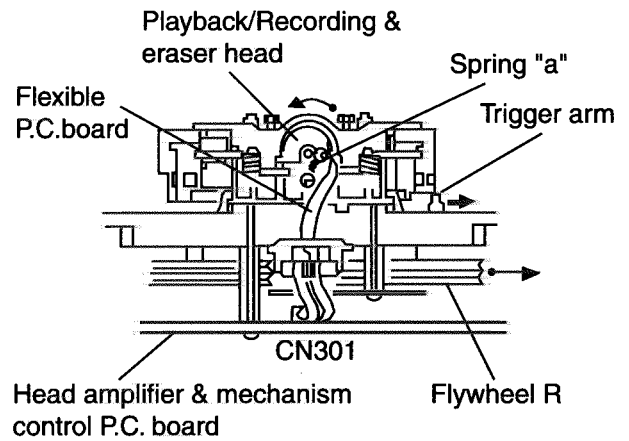
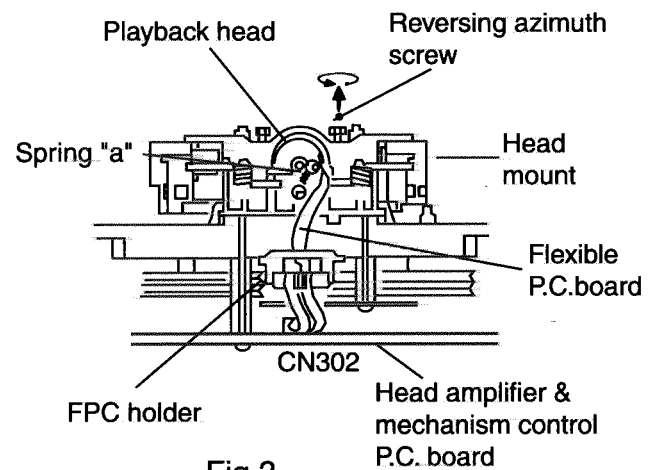

Fig.2 (Mechanism A side)
Fig.3 (Mechanism B side)
2. When the flywheel R is rotated in counterclockwise direction, the playback head will be turned in counterclockwise direction from the position in Fig.2 to that in Fig.3.
● **Reassembling the Playback, Recording and Eraser Heads (See Fig.2,3)**
1. Reassemble the playback head from the front of the head mount to the position as shown in Fig.3.
4. Attach the flexible P.C.board to the chassis base, and fix it with the FPC holder as shown in Fig.3.